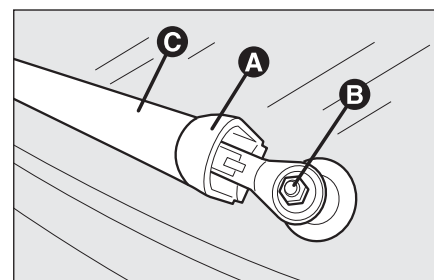

fig. 2
- ☐ raise the cover **A-fig. 2**, slacken the nut **B** and remove the arm **C**;